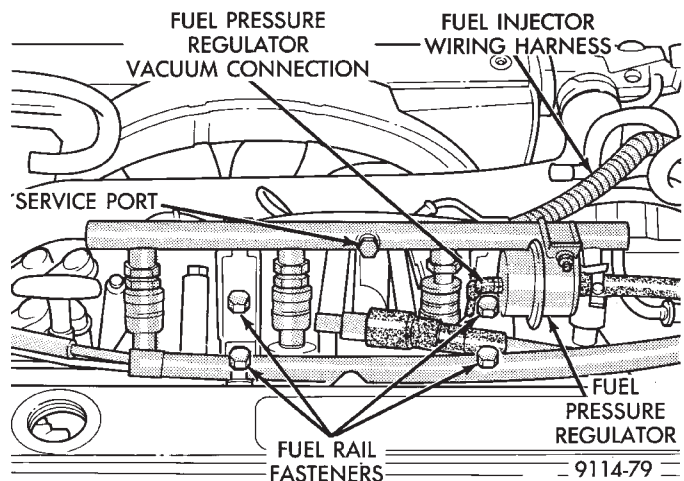

Fig. 8 Fuel Rail Fasteners
- (4) Disconnect the vacuum hose from the fuel pressure regulator (Fig. 8).
(5) Install the injector assemblies into their holes and install the attaching bolts. Draw the fuel rail assembly evenly into the intake manifold, making sure each injector enters its own hole. The oil separator bracket must be on top of the fuel rail bracket (Fig. 8).
(6) Once all injectors are evenly seated, tighten the fuel rail attaching bolts to 23 N•m (200 in. lbs.) torque.
(7) Connect the fuel injector wiring harness to the main harness.
(8) Lubricate the ends of the chassis tubes with clean 30 weight engine oil.
(9) Connect fuel hose quick connect fittings to the chassis fuel tubes. Pull on the fittings to ensure complete connection.